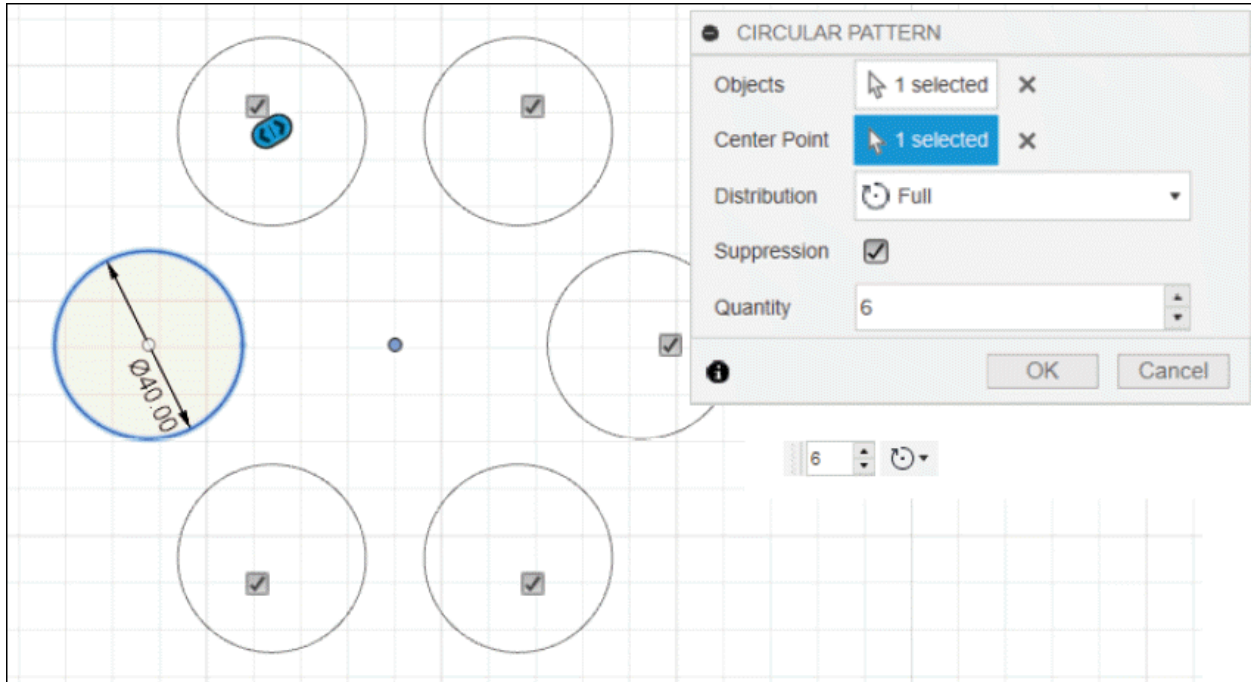

Figure-57. Creation Of circular pattern
- Click on **Select** button for **Center Point** section and select the reference point to be used as center point for circular pattern. The preview of circular pattern will be displayed; refer to Figure-57.